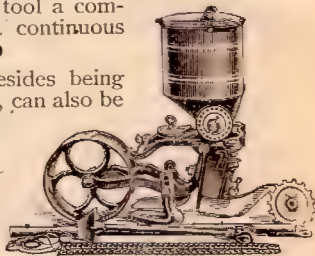

Fig. 134
**No. 6 "IRON AGE" Hill and Drill Seeder Attachment** besides being applicable to any form of our "IRON AGE" Double Wheel Hoes, can also be applied to our No. 20 "IRON AGE" Single Wheel Hoe, shown on following page. This attachment is easily applied or detached, and will sow seed both in a continuous row or in hills at 4, 6, 8, 12 or 24 inches apart. Price, as shown in Fig. 134 with all necessary parts, \$4.00
**The No. 6 "IRON AGE" Hill and Drill Seeder Attachment** may be applied to or detached from our No. 20 with the same ease and rapidity. When attached the tool is converted into a most complete seed drill for sowing seed in a continuous row or dropping in hills at 4, 6, 8, 12 or 24 inches apart. For cut of this attachment see previous page, Fig. 134. Price with all necessary parts, \$4.00